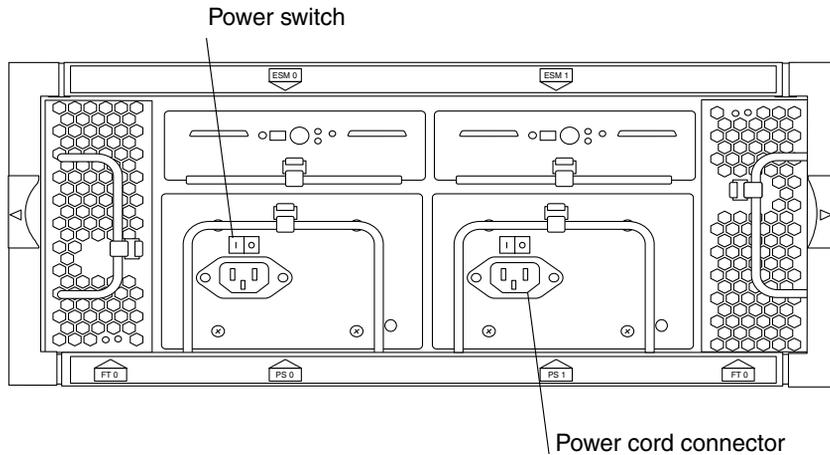

FIGURE 2-3 Power Switches and Power Cord Connector
4. **Connect the power cords to the power cord connectors (FIGURE 2-3).**